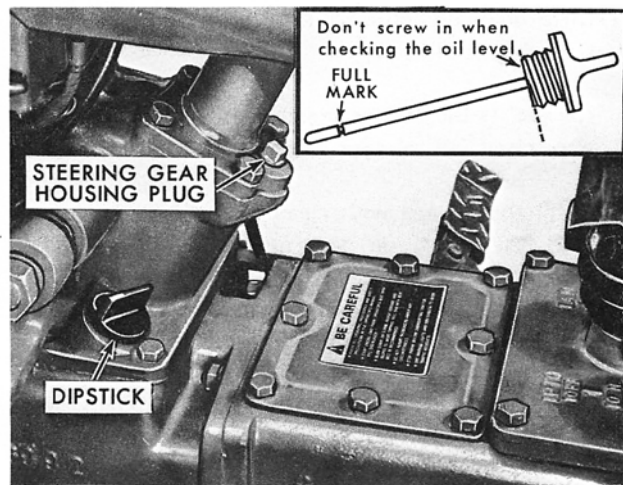

Figure 31
1. With the tractor standing level and the engine off, Check the oil level with the dipstick, Figure 31.
2. Remove the dipstick, Figure 31, and fill reservoir with new oil of the type specified on page 19.
1. Visually check the oil level in the housing by removing the filler plug, Figure 31.